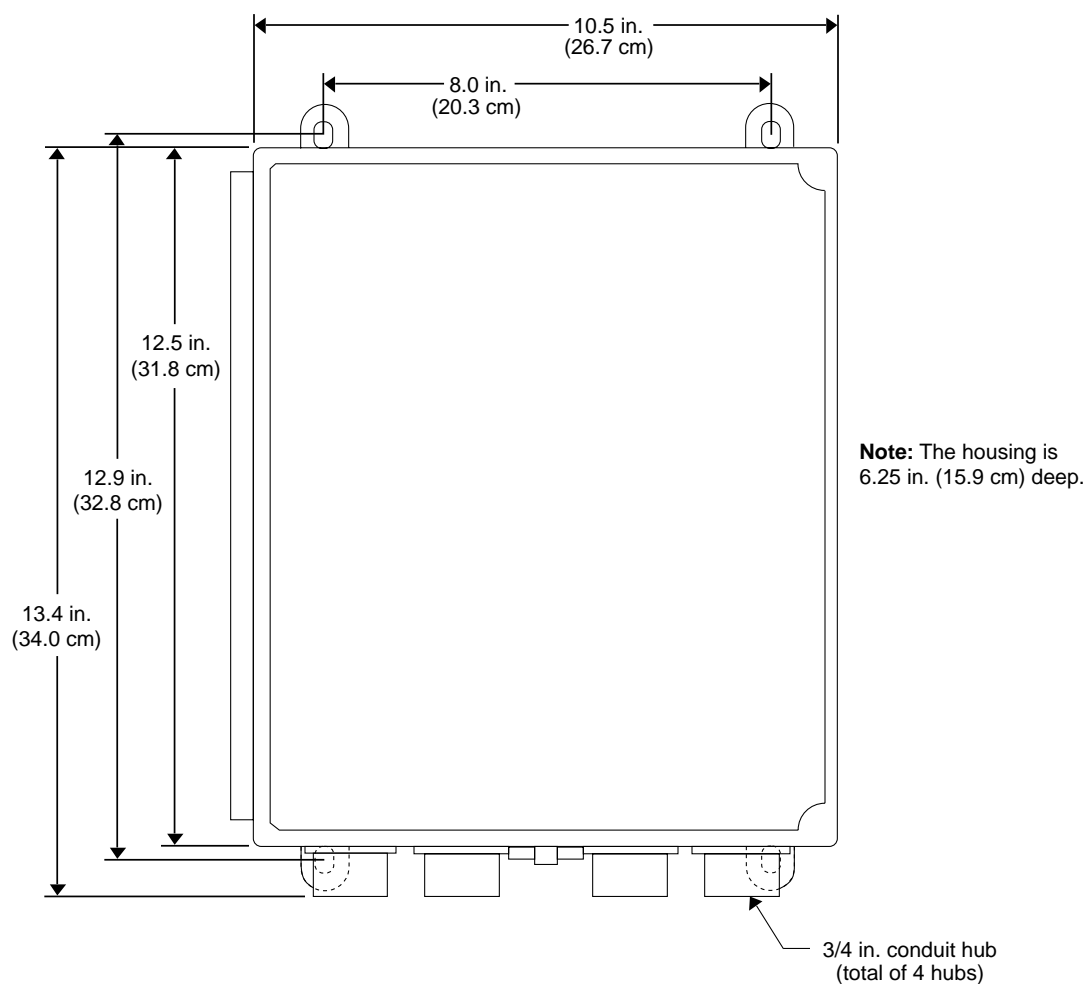

Figure 4: Beacon 800 Gas Monitor Outline and Mounting Dimensions
4. The Beacon 800 is shipped with the mounting feet positioned under the housing. Loosen the screws that secure the feet to the housing, rotate the feet to their mounting position (as shown in Figure 4), then tighten the screws.
5. Insert 1/4 in. screws through the slots in the mounting feet at each corner of the housing to secure the housing to the mounting surface (see Figure 4).